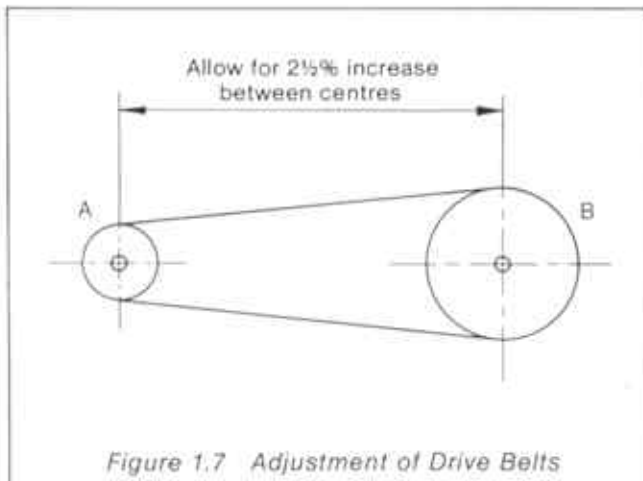

Figure 1.7 Adjustment of Drive Belts
1.41 To prevent damage to new vee belts when fitting, the distance between the centre of the engine pulley and the driven pulley as shown in Figure 1.7 must be capable of a reduction from the designed running position. Provision must also be made for an increase of at least 2.5% over the designed running position to provide adjustment for belt stretch and wear during the life of the belts. Multiple belts should always be renewed in matched sets.